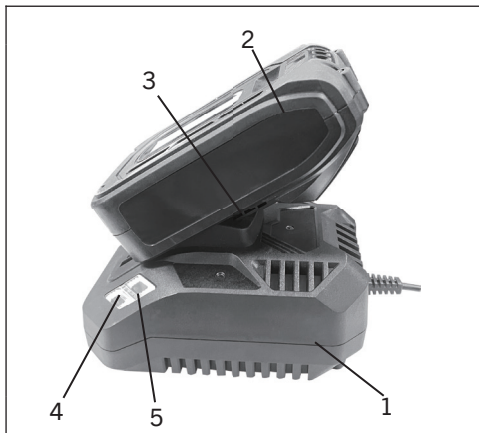

FIG. 1
1. Place the battery charger (1) in a dry location near a 110–120V 60 Hz electrical outlet (Fig. 1).
3. Turn the battery (2) upside down and slide it onto the charger (Fig.1).
NOTE: Make sure the grooves (3) in the sides of the battery slide over the matching tabs on the charger (Fig.1) until the battery latch "clicks" into place.
- a) When the charger is plugged into the wall receptacle and NO battery is on the charger, the green indicator light (4) (Fig.1) will turn ON indicating the charger is "live".
- b) When a discharged battery is installed on the charger, the green indicator light will turn OFF and the red indicator light (5) (Fig.1) will FLASH. The flashing red indicator light indicates the battery is being charged.